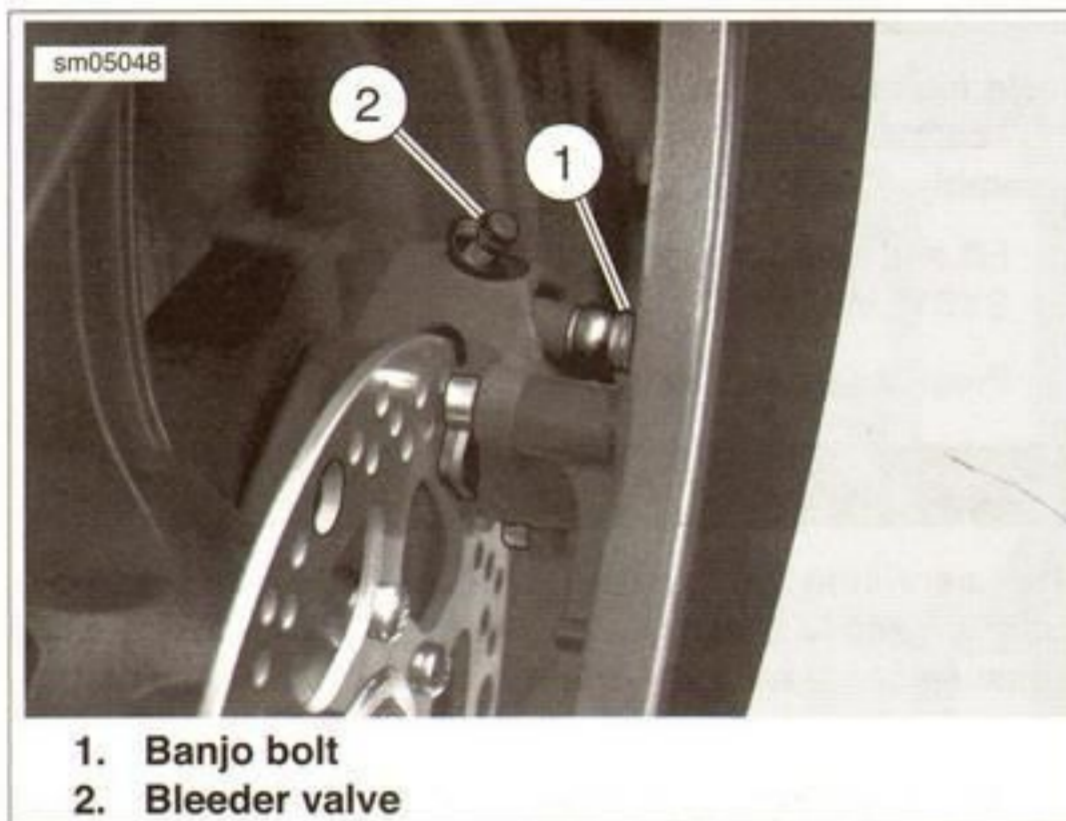

Figure 2-77. Rear Brake Caliper/Banjo Bolt
5. See Figure 2-77. Remove banjo bolt from rear caliper. Discard copper washers.